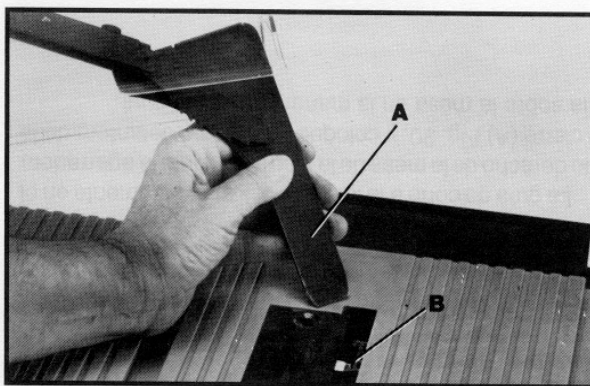

Fig. 14
2. Insert splitter end (A) Fig. 14, of blade guard into splitter holder (B). Push splitter (A) down into holder until you hear a click which fastens the splitter in place. **NOTE:** It is important that the splitter (A) be in the vertical position and pushed straight down into the splitter holder (B) during the assembly procedure.
4. **NOTE:** The splitter holder (B) Fig. 14, has been adjusted at the factory so that the splitter will be aligned with the saw blade which is supplied with the saw. When changing to blades with different widths it may be necessary to adjust the splitter holder (B) Fig. 14, as follows: